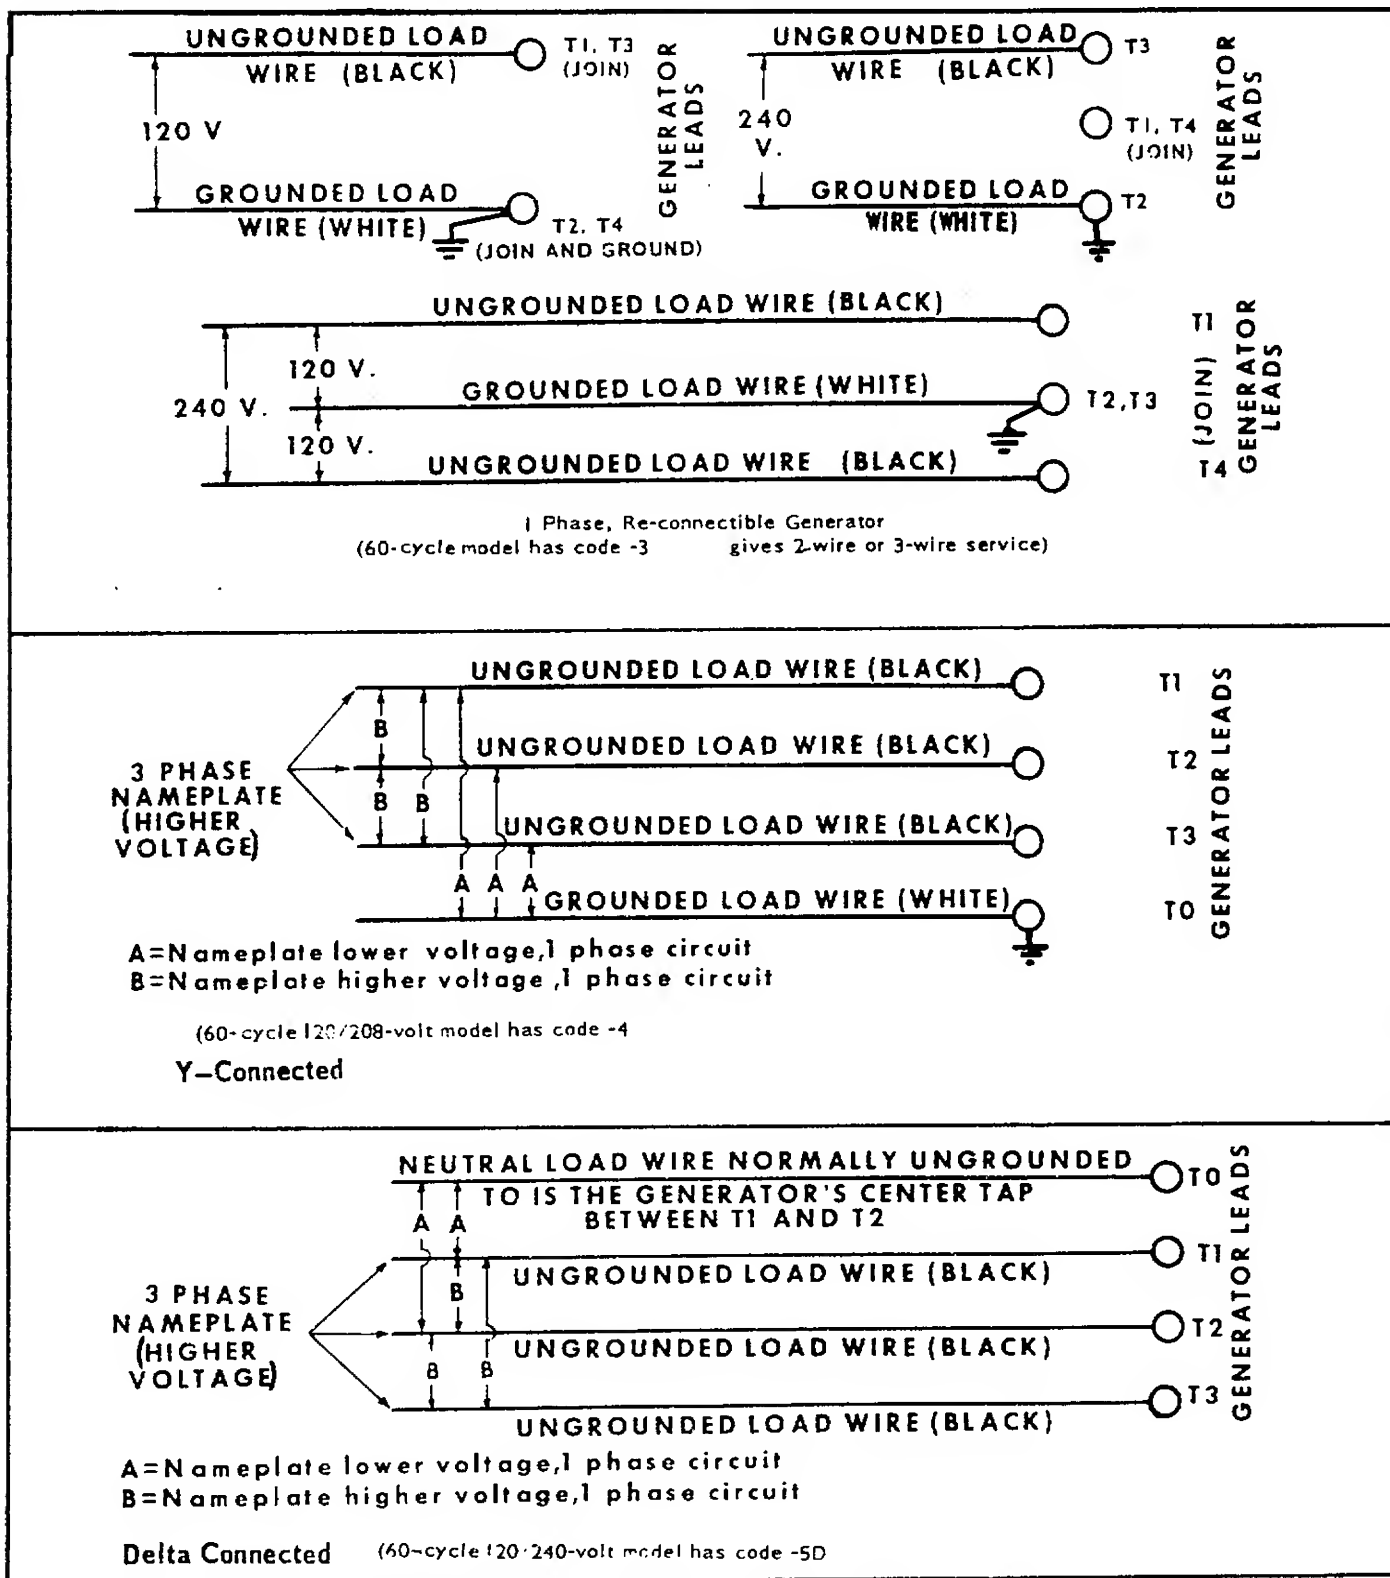

FIGURE 10. WIRING CONNECTIONS
Plant nameplate shows the electrical output rating of the plant in watts, volts and cycles. The plant wiring diagram shows the electrical circuits and connections necessary for the available output voltage. See Fig. 10.
**Voltage Selection on Reconnectable Single Phase Generators:** These models are reconnectable for use as 120/240 volt, 3 wire, 120 volt 2 wire, or 240 volt 2 wire power source (Fig. 10).